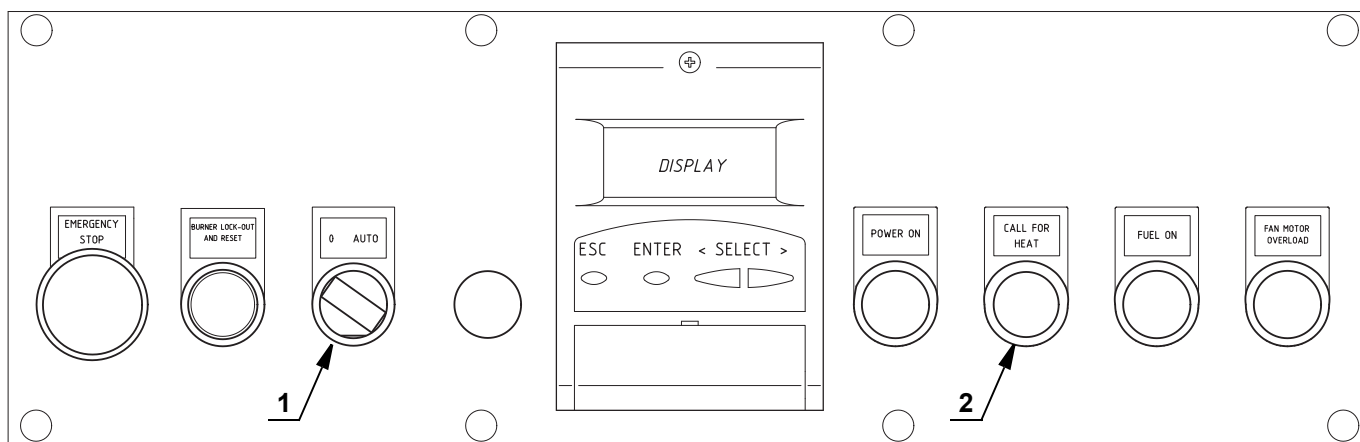

Fig. 29
Close the remote controls and position the selector 1)(Fig. 29) to “AUTO”.
When the limit thermostat (TL) is closed, the “HEAT REQUEST” 2)(Fig. 29) signal must be on and the burner starts the starting cycle.